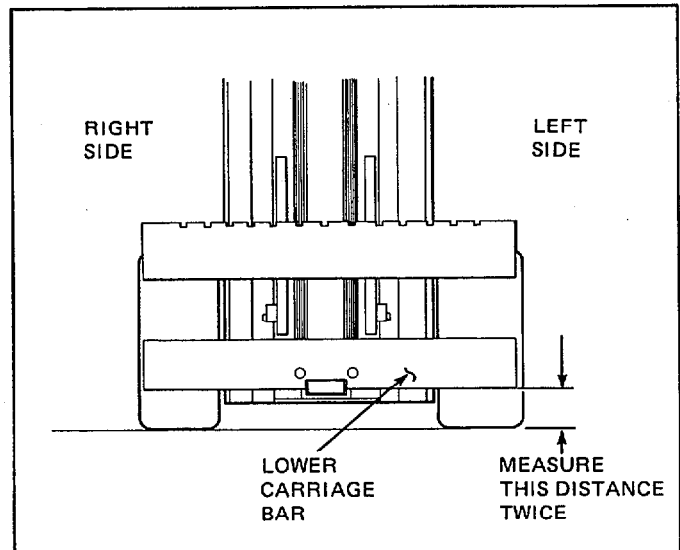

Figure 38. Measuring Carriage Looseness
8. Lower the carriage. Stand on left end of lower carriage bar. Measure distance between left bottom of carriage bar and ground. Stand on right end of lower carriage bar and measure distance at same point as before. The difference between the two measurements should not exceed $\frac{1}{4}'' \pm .06$. See Figure 38.